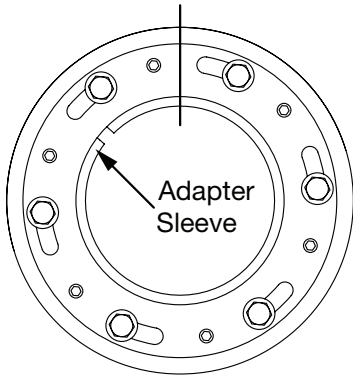

Figure 2 - Mark face of external nut and adapter.
- Important: Mark a line on the adapter and external nut to be used as a location reference – see Figure 2. This is a critical point and represents the location of the nut assembly before the hex head bolts are tightened.